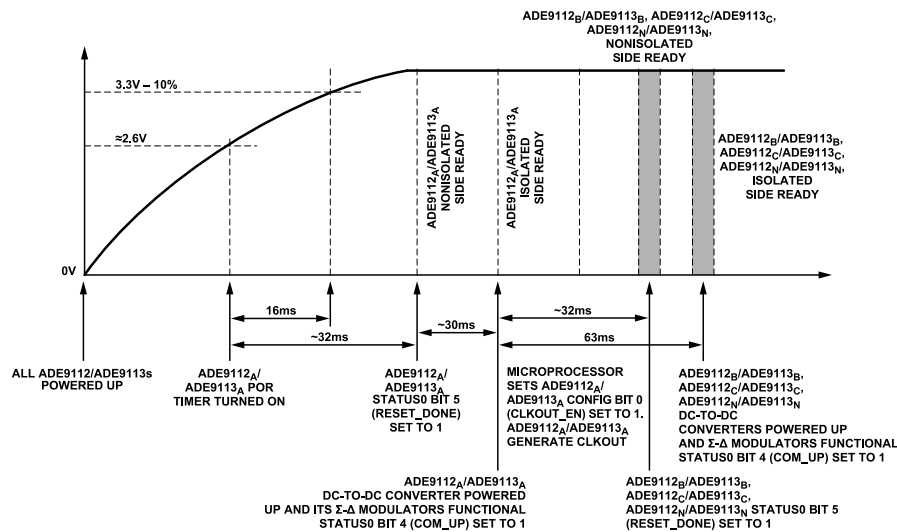

Figure 45. Power-Up Procedure for Systems with Multiple Devices; Only Phase A ADE9112A/ADE9113A Is Clocked from a Crystal
For the polyphase energy meters detailed in the Polyphase Energy Meters section, in which, one single crystal is used, the power-up procedure is as follows (see Figure 45):
To ensure that the Phase A ADE9112/ADE9113 (shown as ADE9112A/ADE9113A in Figure 45) device starts functioning correctly, the supply must reach 3.3 V – 10% in less than 16 ms from approximately a 2.5 V level. The ADE9112A/ADE9113A device is clocked by the 16.384 MHz crystal and then starts functioning. The other ADE9103/ADE9112/ADE9113 devices are not clocked yet.
7. Initialize any registers of all remaining ADE9103/ADE9112/ADE9113 devices. Select one ADE9112/ADE9113 device (Phase C, for example, ADE9112C/ADE9113C in Figure 45) and connect the CLKOUT/DREADY pin to an external interrupt input and output pin of the microcontroller. ADE9112C/ADE9113C must have Bit 0 (CLKOUT\_EN) in the CONFIG0 register left at the default value of 0 to use the DREADY functionality of the CLKOUT/DREADY pin.